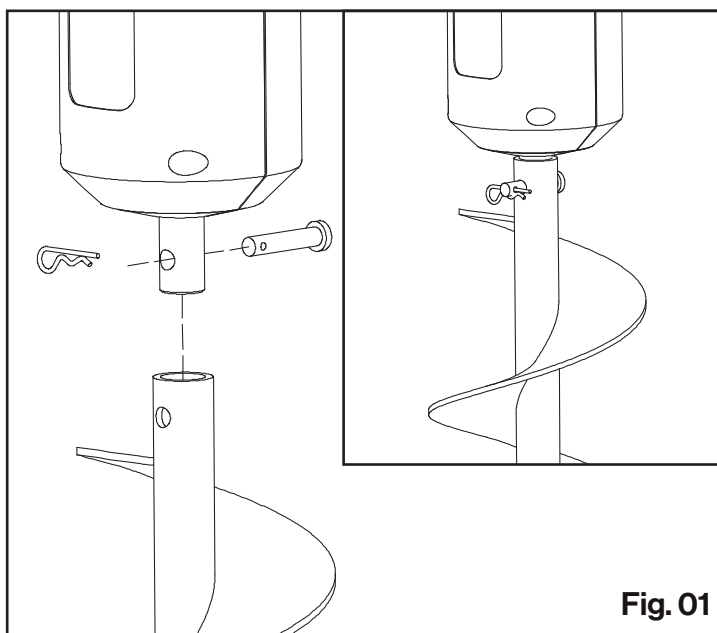

Fig. 01
2. Insert the auger to the spindle of tool, then fixed by bolt and R-shape pin. **(Fig.01)**